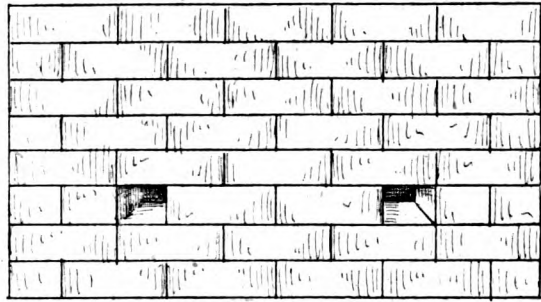

FIG. 1
**Oven for Case-hardening Cycle Parts.**—The construction of an oven for case-hardening cycle parts is shown in sketch. Fig. 1 is a longitudinal elevation showing the air holes at the sides. These are simply spaces for half bricks. Fig. 2 is a longitudinal section showing the